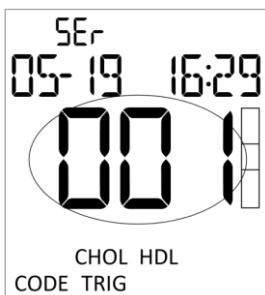

Fig 5.8
- **The code chip should remain in the meter during testing.** The code number will appear on the initial Screen after start-up. (Ref Fig 5.8)